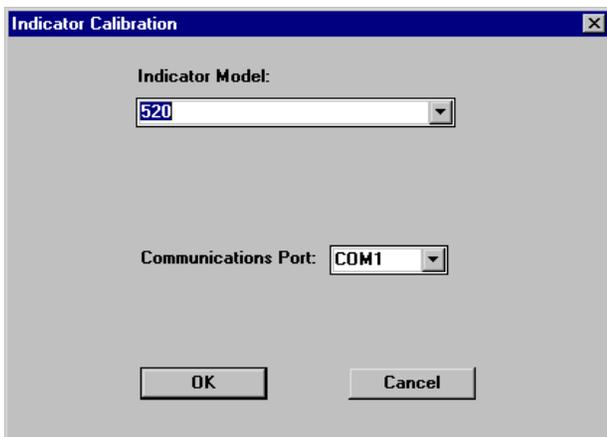

Figure 4-3. Revolution Calibration Display
3. On the Indicator Calibration display, select the indicator model (520) and communications port then click *OK* (see Figure 4-3).